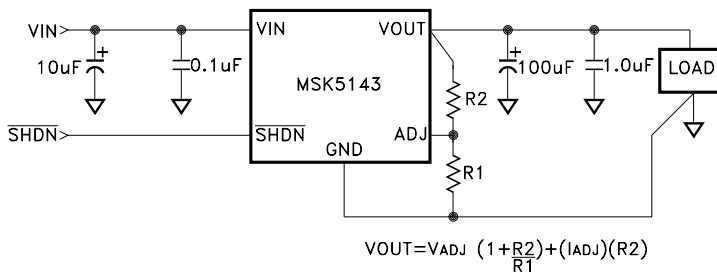

FIGURE 1
- ① The output is decoupled to ground using a 100μF low ESR tantalum capacitor in parallel with a 1μF ceramic capacitor. See figure 1 for typical circuit. Guaranteed by design but not tested. Typical parameters are representative of actual device performance but are for reference only.
- ② Industrial grade devices shall be tested to subgroups 1 unless otherwise requested.
- ③ Military grade devices ("H" suffix) shall be 100% tested to subgroups 1,2 and 3.
- ④ Subgroup 1 TA=+25°C
- ⑤ Subgroup 2 TA=+125°C
The output voltage range of the MSK5143 is 1.21V to 20V. The output voltage is set by the ratio of two external resistors as shown in Figure 1. The device monitors the output to maintain the voltage at the ADJ pin. The ADJ pin is the input to the error amplifier. It has a bias current of 3μA which flows through R2 to the pin. The ADJ pin voltage is 1.21V referenced to ground. The value of R1 should be less than 4.17K to minimize errors in the output voltage caused by the ADJ pin bias current. Reference the typical performance curves for load regulation variation due to the change in the output voltage.